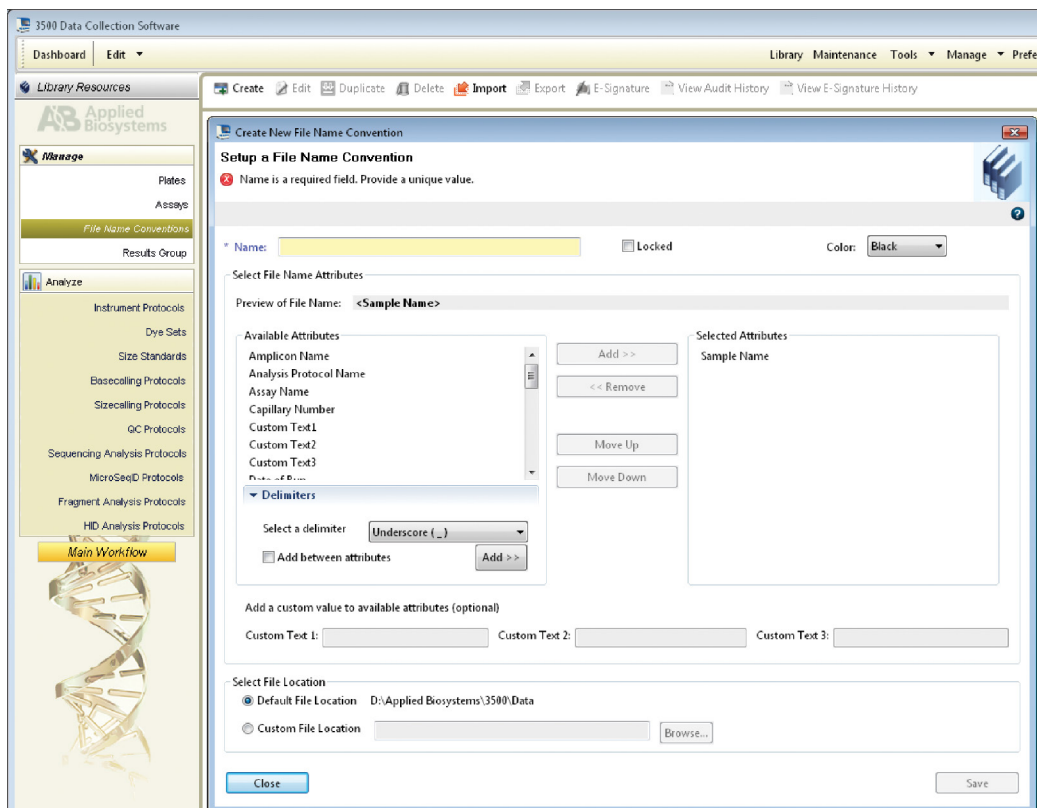

Figure 6. The ‘Create New File Name Convention’ window.
- To create a new File Name Convention (Figure 6), navigate to the Library. Select **File Name Conventions**, then select **Create**. Alternatively, a previously created File Name Convention may be used. Select the File Name Attributes according to laboratory practices, and save with a descriptive name.